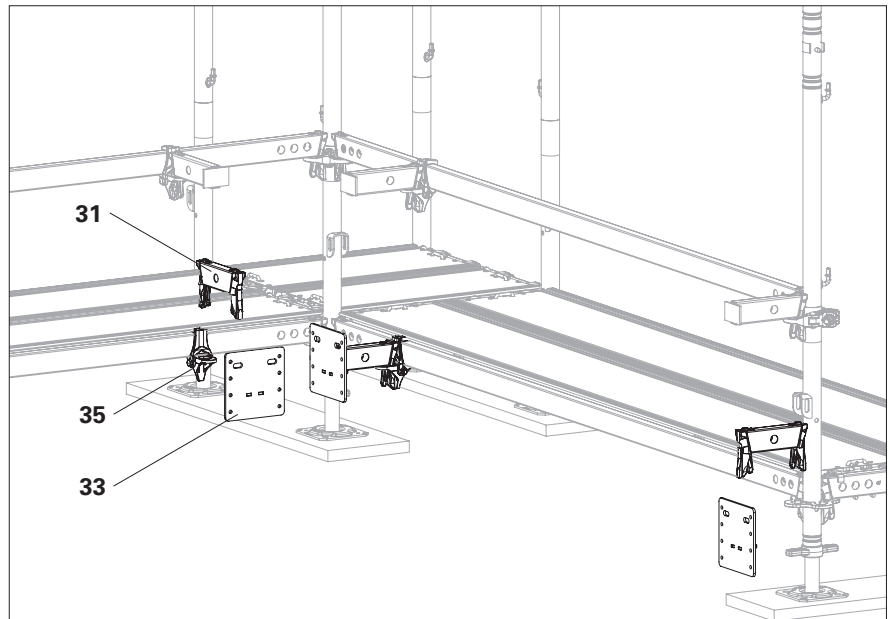
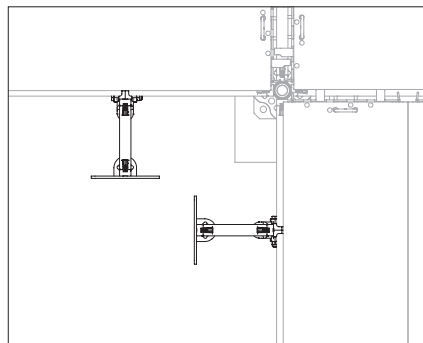

Fig. C2.07
Fig. C2.07a
1. Connect Multi-console Bracket CEB (33) to Horizontal Ledger UH-2 25 (31) and assemble in base position and Ledger-to-Ledger Coupler UHA-2 (35) as close as possible to the corner. (Fig. C2.07 + Fig. C2.07a)